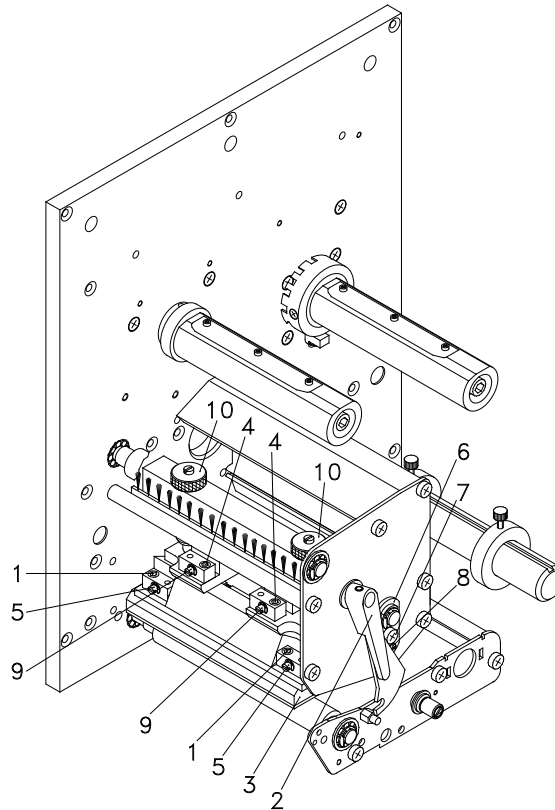

Figure 29
1. Loosen the screws (1 or 4, Figure 29) with a hexagon key by approx. $\frac{1}{4}$ rotations.
2. Adjust the parallelism with the adjusting screws (5 or 9, Figure 29).
4. Tighten again screws (1 or 4, Figure 29).
1. Loosen screw (7, Figure 29) with a screwdriver by approx. $\frac{1}{4}$ rotations.
2. In order to achieve a pressure balance, turn the excentric bolt (8, Figure 29) as long as the printing result comes up to your full expectation.
3. Tighten again screw (7, Figure 29).
1. Turn pressure screws (10, Figure 29) to change the pressure of printhead.
2. Turning the pressure screws (10, Figure 29) as far as they will go in clockwise direction results in a pressure increase of 10N in contrast to the factory setting.
3. Turning the pressure screws (10, Figure 29) exactly one rotation from the right stop position counter clockwise results in the factory settings.